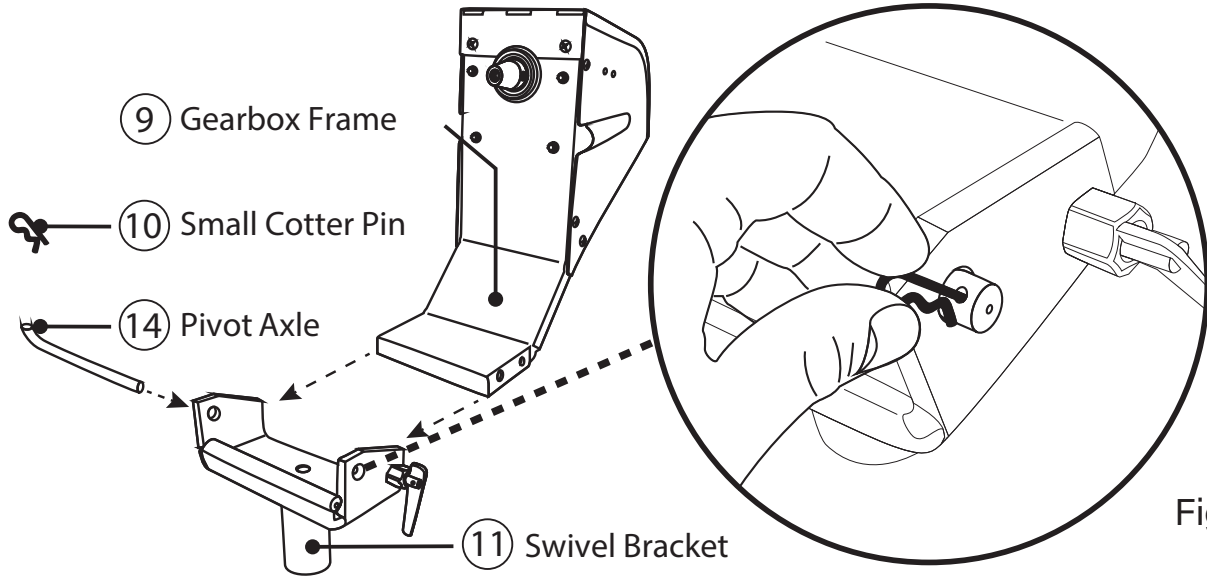
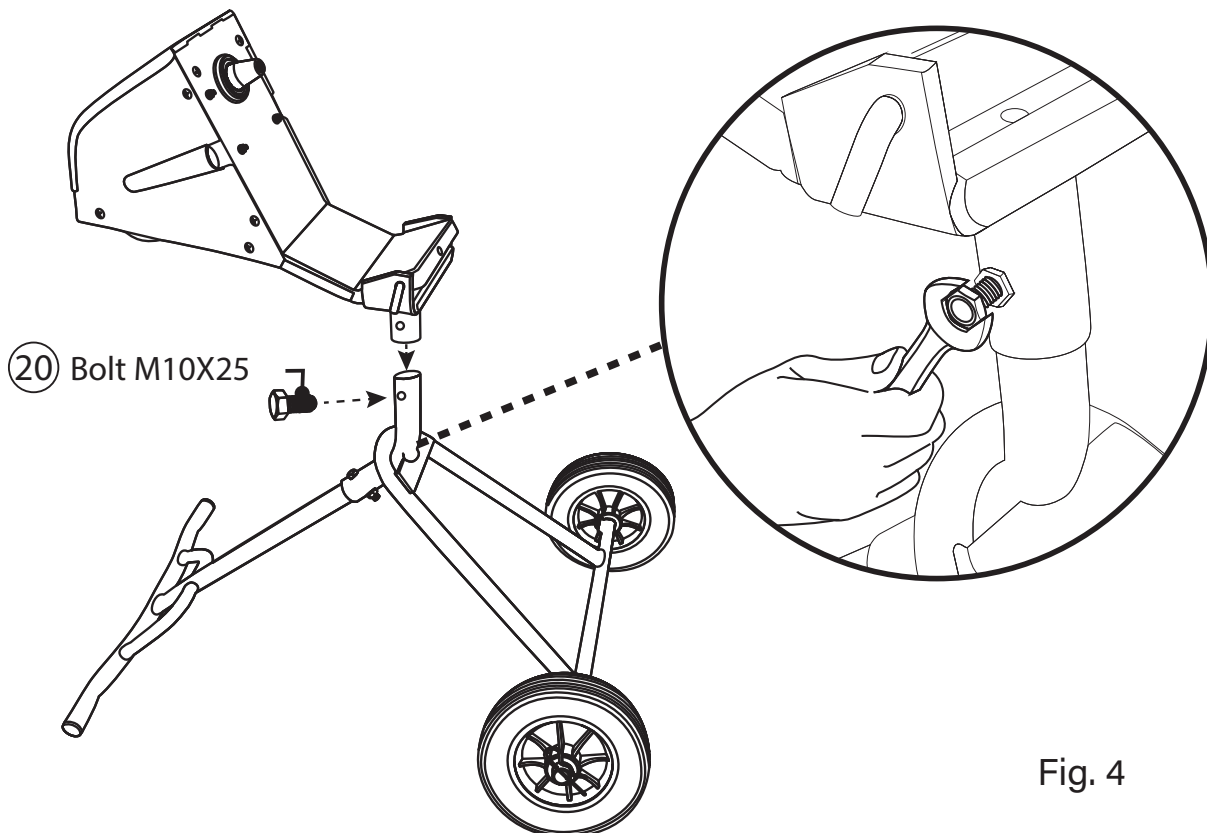

Fig. 3
Fig. 4
3. Fit the Gearbox Frame (9) onto the Swivel Bracket (11) and secure it with the Pivot Axle (14) and Small Cotter Pin (10). (Fig. 3 & Fig. 4)